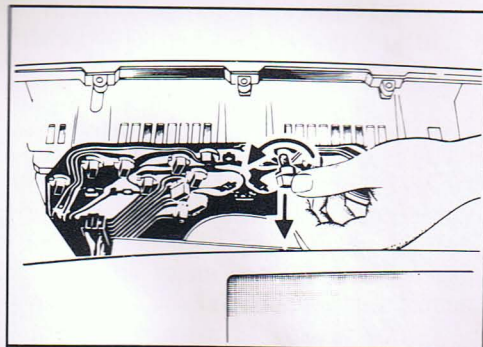

Figure 2 - Removing bulb socket
2. Remove the socket which holds the bulb to be replaced. Twist the socket counter-clockwise, then pull it out. See Figure 2.